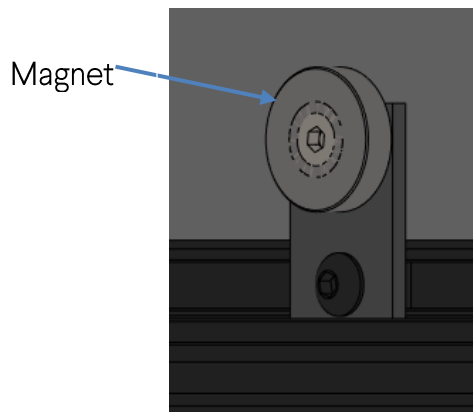

Figure 3: Magnet Mount Assembly
2. Fasten and secure the magnet mount into the rail of the frame (See figure 3).